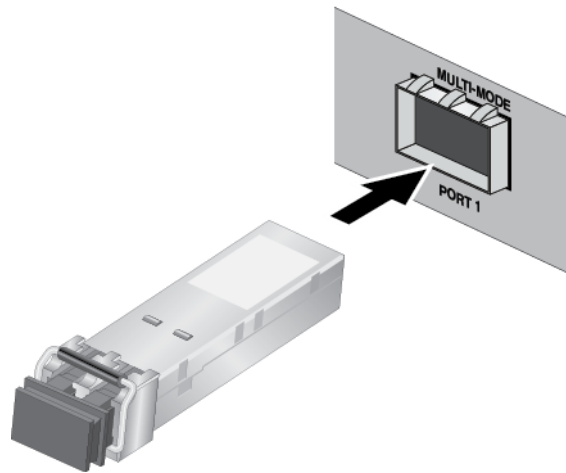

Figure 21. Inserting the SFP
4. Slide the transceiver into the SFP slot until it clicks into place. See Figure 21.